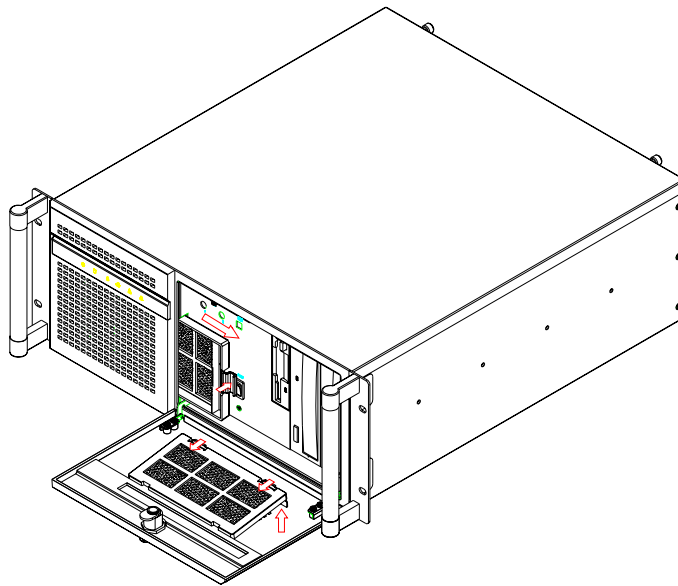

Figure 3.6 Removing the filters
3. Clean the filters with a soft brush or wash the dust away from the filter with water and then dry it. (see Figure 3.6)